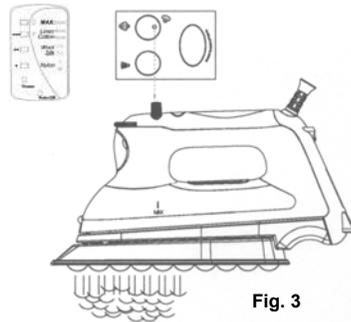

Fig. 3
- Turn the steam button to the left to the burst of steam position. (Fig. 3)